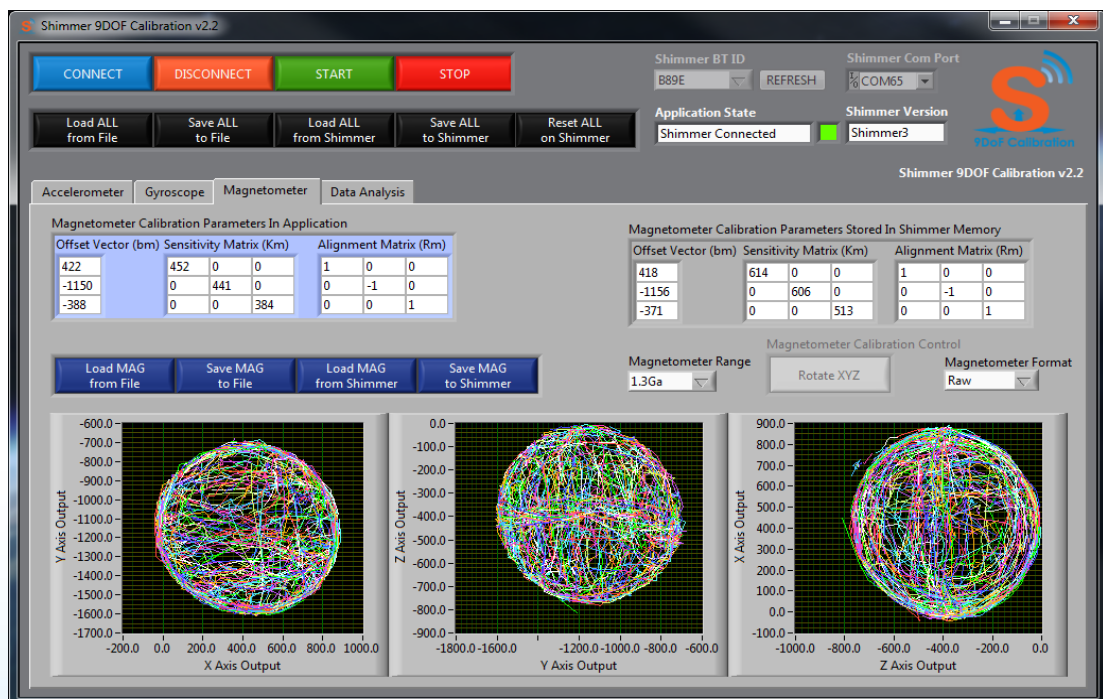

Figure 7-6 Calibrating the magnetometer
- Press the *Rotate XYZ* button to begin the procedure, the button should turn green. Using your hand rotate the Shimmer about itself through a series of different orientations. There are an infinite amount of different orientations so it is not possible to position the Shimmer in each orientation however try to cover a wide spectrum of different orientations. For optimal results you should try to rotate your Shimmer to trace as much of a full sphere as is feasible. Figure 7-6 illustrates what the plots look like when a full sphere is traced. Once satisfied, press the *Rotate XYZ* button to end the procedure.